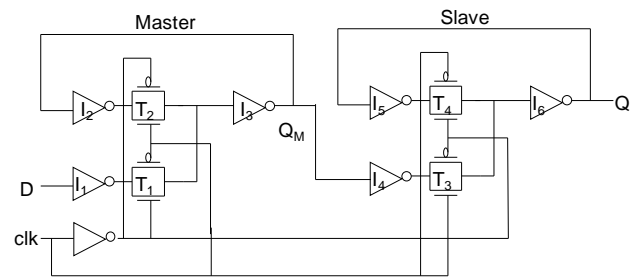

Fig. 5
- Consider the MUX type ET FF as shown in Fig. 5. Assume the propagation delays of  $I_x$  and  $T_x$  are  $1ns$  and  $2ns$  respectively. The delay between  $clk$  and  $!clk$  is 0. (5%)